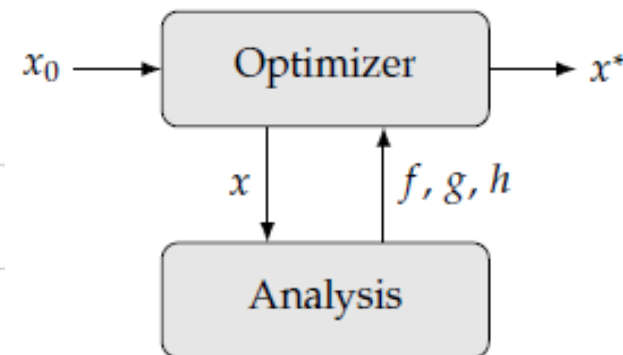

Figure 1.12 The analysis computes the objective (f) and constraint values (g, h) for a given set of design variables (x).
- The analysis must be fully automatic so that multiple optimization cycles can be completed without human intervention, as shown in Fig. 1.12.